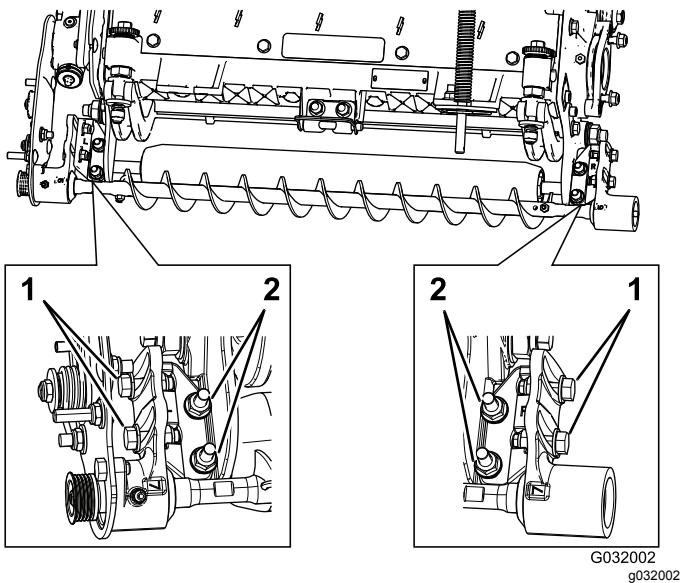

Figure 11
- A. Loosen the 2 flange locknuts securing the roller-brush mounting bracket to the cutting-unit side plate (Figure 11).
- B. Rotate the roller-brush-bearing housing until the brush plate is parallel to the cutting-unit side plate (Figure 11).
- C. Tighten the 2 flange locknuts securing the roller-brush mounting bracket to the cutting-unit side plate (Figure 11).
1. Loosen the 2 bolts securing each roller-brush-bearing housing to the roller-brush mounting bracket (Figure 11).